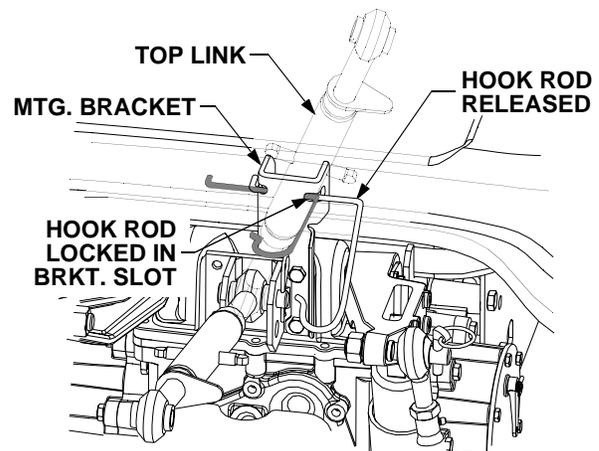

Figure 21
- While holding the top link upward, raise the hook rod and slide it fully to the *left* so that it locks in the upright position in the *right* slot of the mounting bracket. See Figure 21.